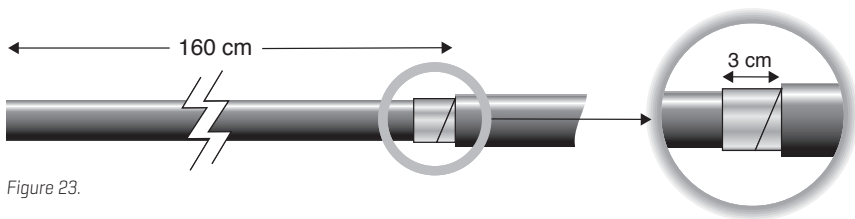

Figure 23.
1. First, remove the black outer sheath for a length of 160 cm by cutting radially round the HVSC Plus cable with a sharp knife. The lengthwise cut is also performed with a knife, but take great care not to score the black insulation under the copper tape as well as the 1st 3 cm of copper tape against the outer sheath. Cut and remove the material lining over the copper tape [Figure 23].
2. With a knife, cut and remove the fabric tape material over the copper tape up to the outer sheath. Measure and mark with a pen the outer copper screen tape at 3 cm along from the end of the outer sheath [Figure 23]. With a knife or scissors, carefully cut and remove the copper tape, again without damaging the black insulation below. If using a knife, carefully score the tape without cutting through it and use this score line to tear the tape along the line.